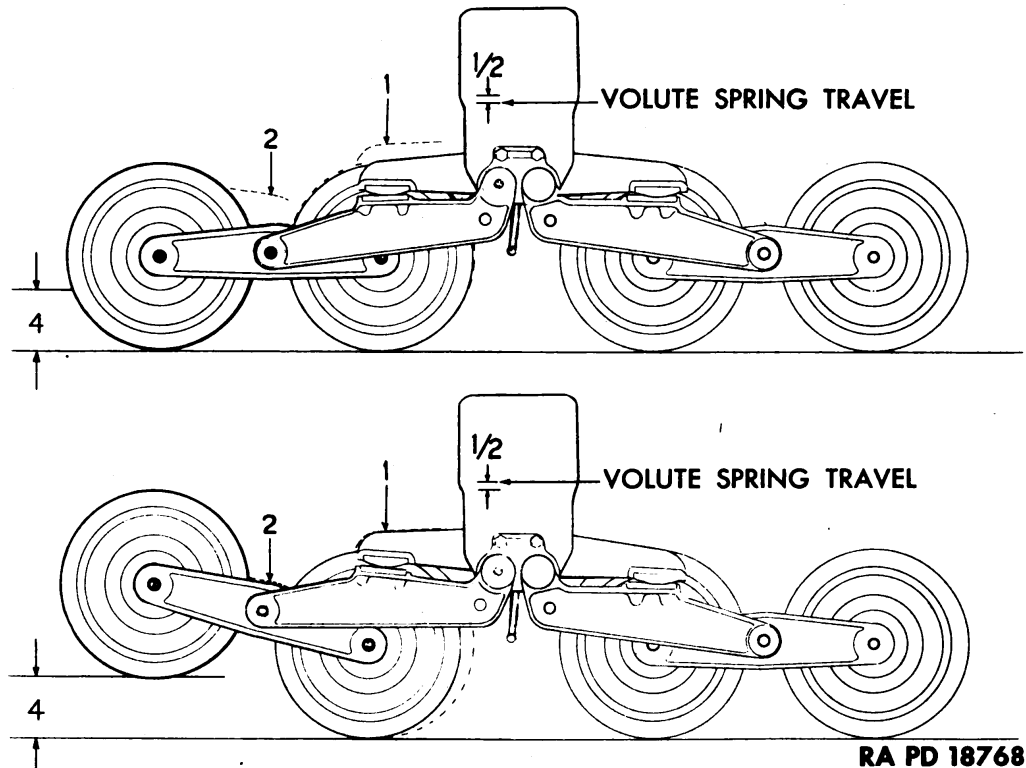

Figure 12 — Bogie Operation Diagram
b. Operation. The bogie rollers contact the inner circumference of the track band as the tracks are laid down by the sprockets. The up and down movements of the tracks, as distorted by obstacles, are transferred by the bogie rollers to the side arms, which pivot on the trunnions and transmit the movement to the crabs. The crabs in turn pivot on their gudgeon pins and also slide vertically in the guide slides, thus causing the volute springs to absorb the shock. Because of the construction, as illustrated in figure 12, only a small amount of volute spring travel is occasioned by a comparatively large amount of vertical travel of a bogie roller. The reduction of travel ratio through the system of leverages is approximately 8 : 1. For example, a 4-inch vertical travel in the front bogie roller will occasion only $\frac{1}{2}$ -inch volute spring travel. The construction of the track idler and spring-loaded swinging shackle permits forward and backward travel of the shackle to compensate for the distance between sprocket and idler centers, and prevents track breakage if an object finds its way between the track and the rolling parts.